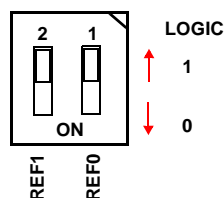

FIGURE 1. TYPICAL U2 DEFAULT SETTING 11 (1.5V)
- Set the “REF Selection” DIP switch (U2) to 11 corresponding to DAC = REF = 1.5V. Figure 1 details the typical default configuration for U2 when the board is shipped. In this default setting, the evaluation board is set for a reference voltage of 1.5V.